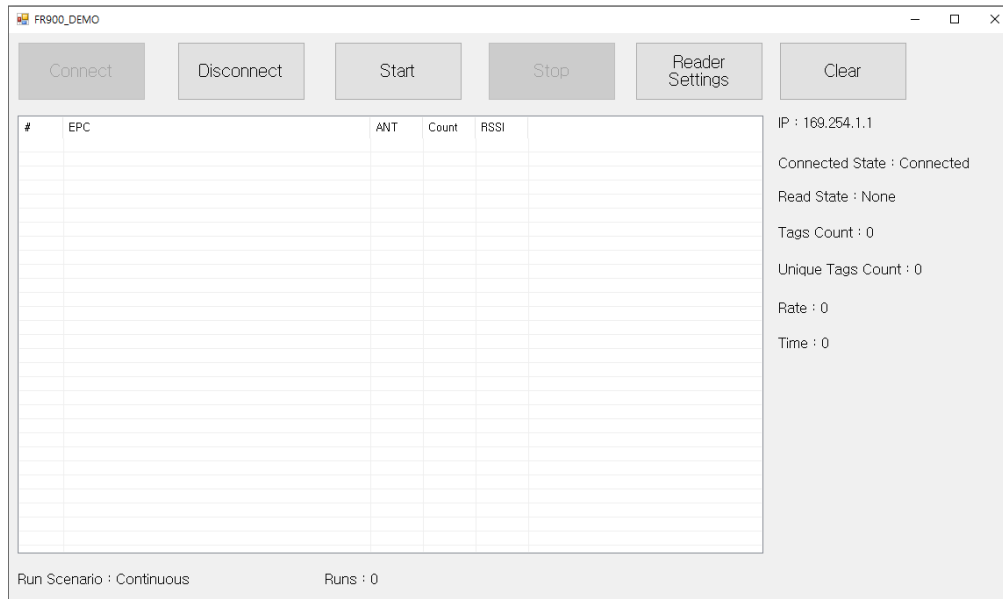

Figure 4.1 DemoApp initial screen
1. Launch the Demo App. The screen shown in Figure 4.1 displays.